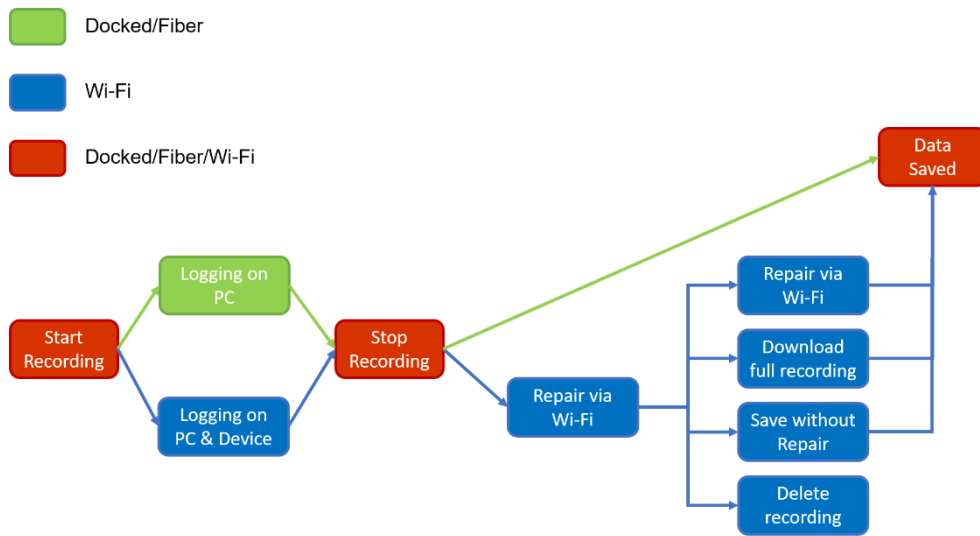

Figure 2: Flow chart of the recording process in the QRA. Depending on the interface, different steps are taken.
The QRA and the SAGA support three types of interfaces between the Data Recorder and the Docking Station: (1) Docked (Electrical), (2) Fiber (Optical) or (3) Wi-Fi (Wireless). The user can switch between these different interfaces through the QRA. When using the Wi-Fi interface, there will often be a number of missing samples. To be able to retrieve a data file without missing samples, backup logging on the device is also started when starting the data recording. When the recording is finished, both datasets will be combined to create a repaired and complete dataset, which is called data repair. The process of data recording and data repair is visualized in the following flow chart (see Figure 2).